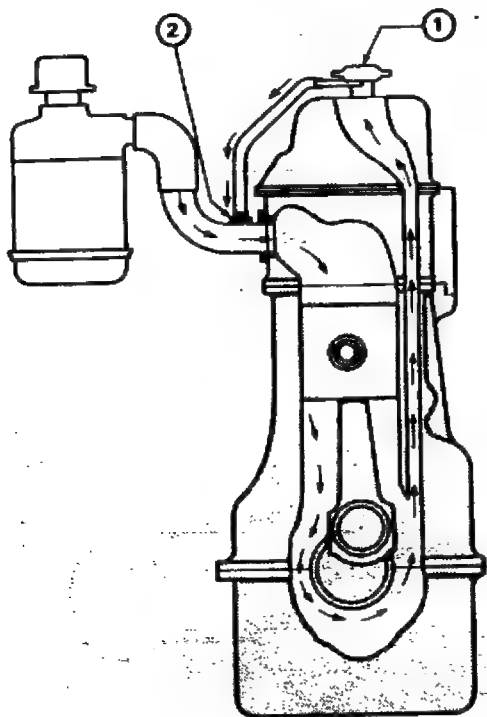

Fig. 9A Latest type
- (b) Phase II as fitted to 2700C/2710E Range engines (Fig. 9A and 9B).
- (b) The illustrations Figs. 9A, 9B and 10 show the revised crankcase breathing system for the Phase II engine.